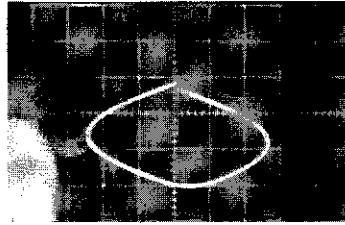

Figure 20
- (10) Similarly, press and hold the key corresponding to the lower of the two intermediate C's and adjust its trimmer for a stable trace like the one shown in figure 20. NOTE: If a change of more than 45° of the rotation of the trimmers in steps 9 and 10 is needed to produce the required patterns it may indicate a solder bridge, cold solder joint or improper resistor placement on the voltage divider circuit board.